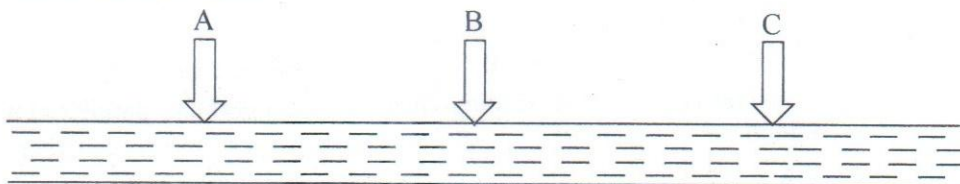

Figure 1
1. (a) A river stream receives waste water from different discharge points (A, B and C) as shown in **Figure 1**. Draw qualitative diagrams of concentration of persistent pollutants, biodegradable organic pollutants and microbial pollutants at different waste discharge points in the downstream. (6)